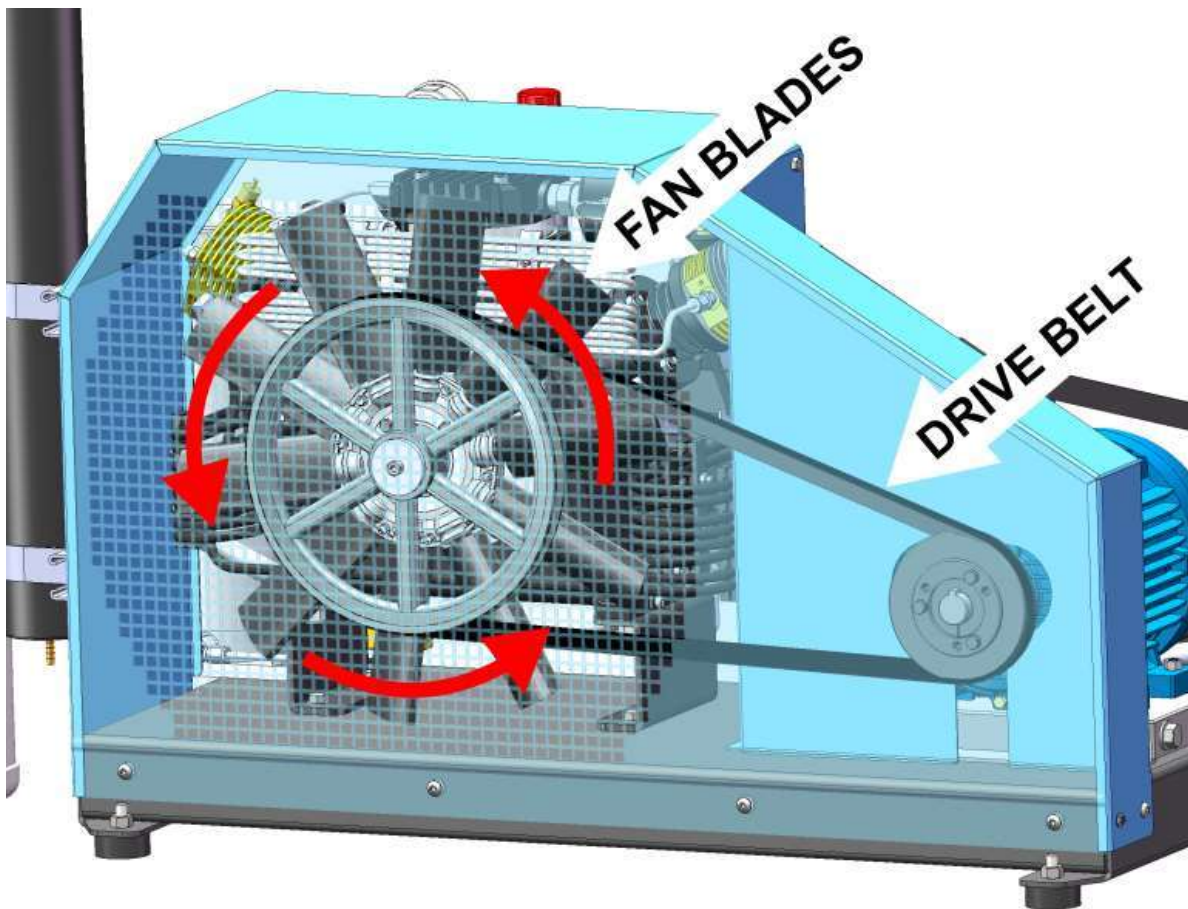

Figure 3.4: Drive Belt, Fan Blades, and Rotation
- Check that there are no obstructions to the fan blades, drive belts, or air intake. (Figure 3.4 and 3.5)
- Check the direction of rotation (Clockwise from front, counter clockwise from back). See figure 3.4.